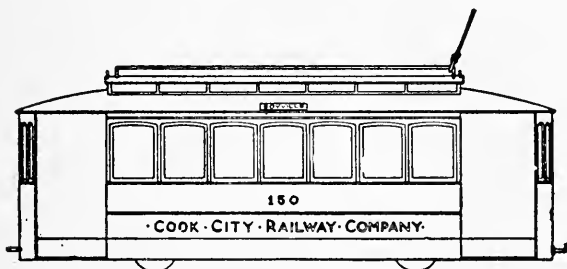
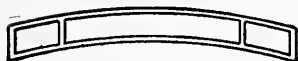

FIG. 363. — Side View.
FIG. 370.
**A Street Car** such as is shown in Figs. 363 and 364
top as *B*. Cut and glue a piece of cardboard in each end of *C* to complete the roof. The shape of this piece is shown in Fig. 370. The outer ends of the car should be made as shown in Fig. 371 and tacked around the ends of the wooden truck platform, and also fastened to the under side of the roof with strips of linen. The window openings may be cut in the ends, but it will make a stronger car if they are simply drawn upon it. Cut four cardboard steps similar to Fig. 372 and tack them to the sides of the front and rear platforms. When the car has been put together, replace the wire in the tops of uprights *I* and *J* (Fig. 360), running the ends through the roof (see Fig. 363). Paint the sides and ends of the car yellow with brown trimmings, and paint the roof a light gray. Water colors can be used for the purpose. Letter the name of your car-line upon the sides and the number of the car upon each end and side. The route should be lettered upon strips of cardboard with pins run through them as shown in Fig. 373, these strips to stick in the roof of the car (see Figs. 363 and 364).
**A Clockwork Railway**, constructing the cars similarly to the street car shown in Fig. 363, Chapter XXV, and using the schemes in the same chapter for the tracks and depots.